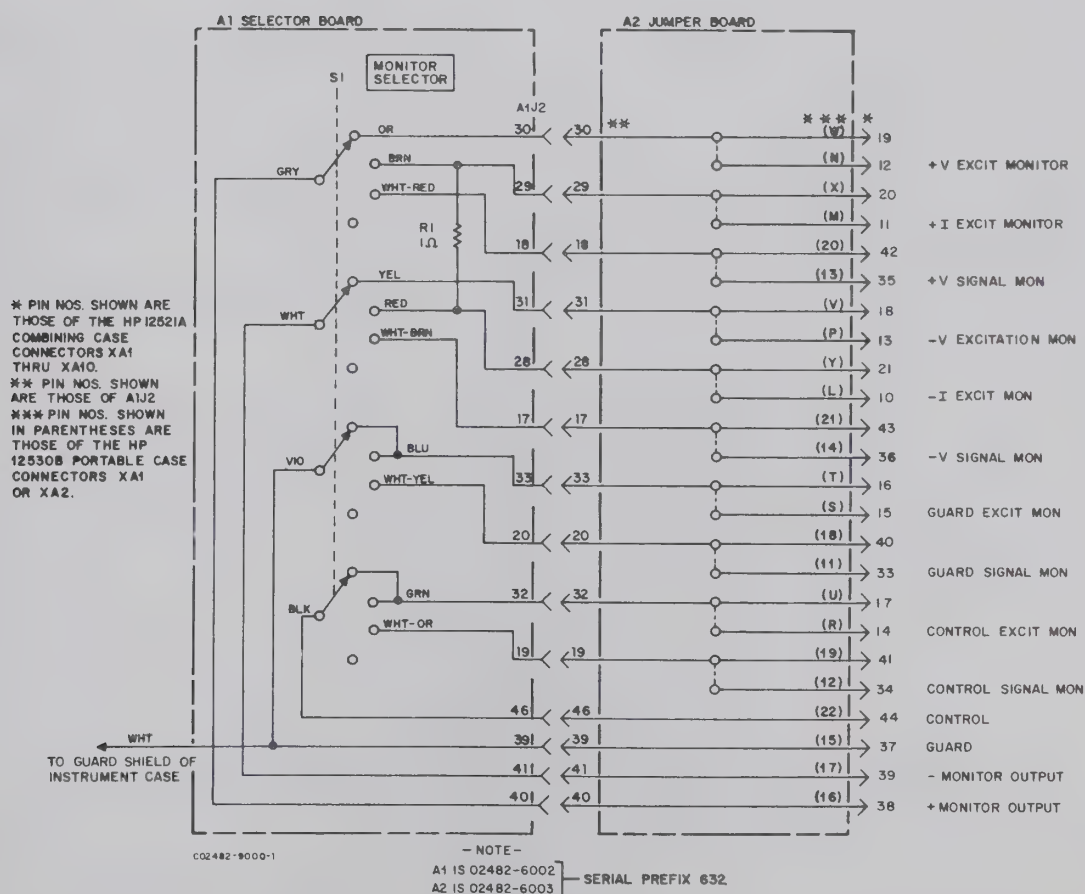

FIGURE 4-4 HP-2482N MONITOR FUNCTION SELECTOR
The Monitor Function Selector (Figure 4-4) may be installed in place of a 2480A/2481A instrument in the combining case where it will engage receptacle J1 through J10 according to the channel location selected. With this configuration, it is possible to monitor bridge excitation voltage or current and the bridge output signal of any channel on a voltmeter connected to the signal connector J21 through J30 (associated with J1 through J10, respectively, that received the 2482N). A rotary switch selects one of the three signal types to be measured. The 2482N contains a standard 1-ohm resistor for the current measurement function.
- Figure 4-4 HP-2482N Monitor Function Selector